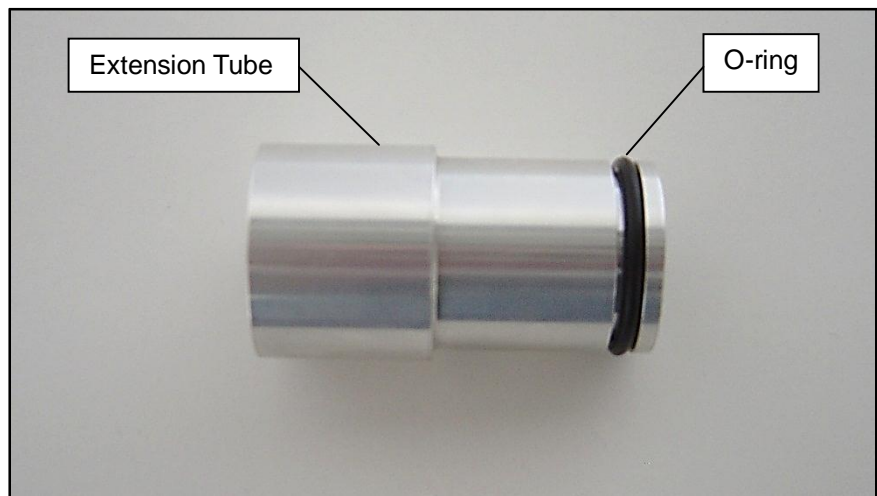
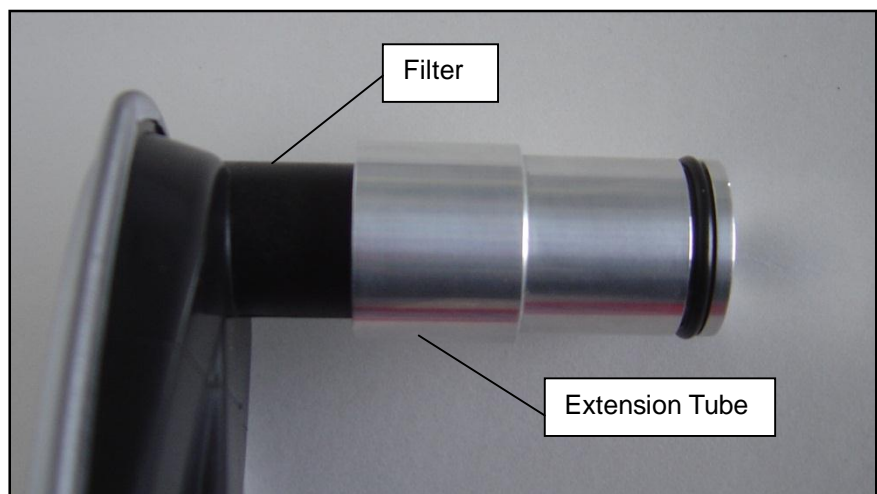

Figure 1
Figure 2
**STEP 7.** Install the supplied o-ring on the extension tube provided in the kit (See Figure 1). B&M recommends that the transmission filter be changed at this time. Lubricate the seal on the transmission filter (MOPAR p/n: 52108325AA) and the o-ring with new transmission fluid. Place the extension tube on the transmission filter (See Figure 2).